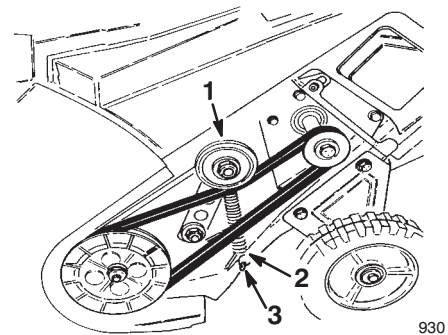

Figure 11
Make sure that the long end of the idler spring is hooked in the housing notch and the round end of the spring is hooked on the pin on the back of the idler pulley (Fig. 11).
8. Lift up the idler pulley arm assembly, squeeze the belt together, and route the belt under the idler pulley (Fig. 11).